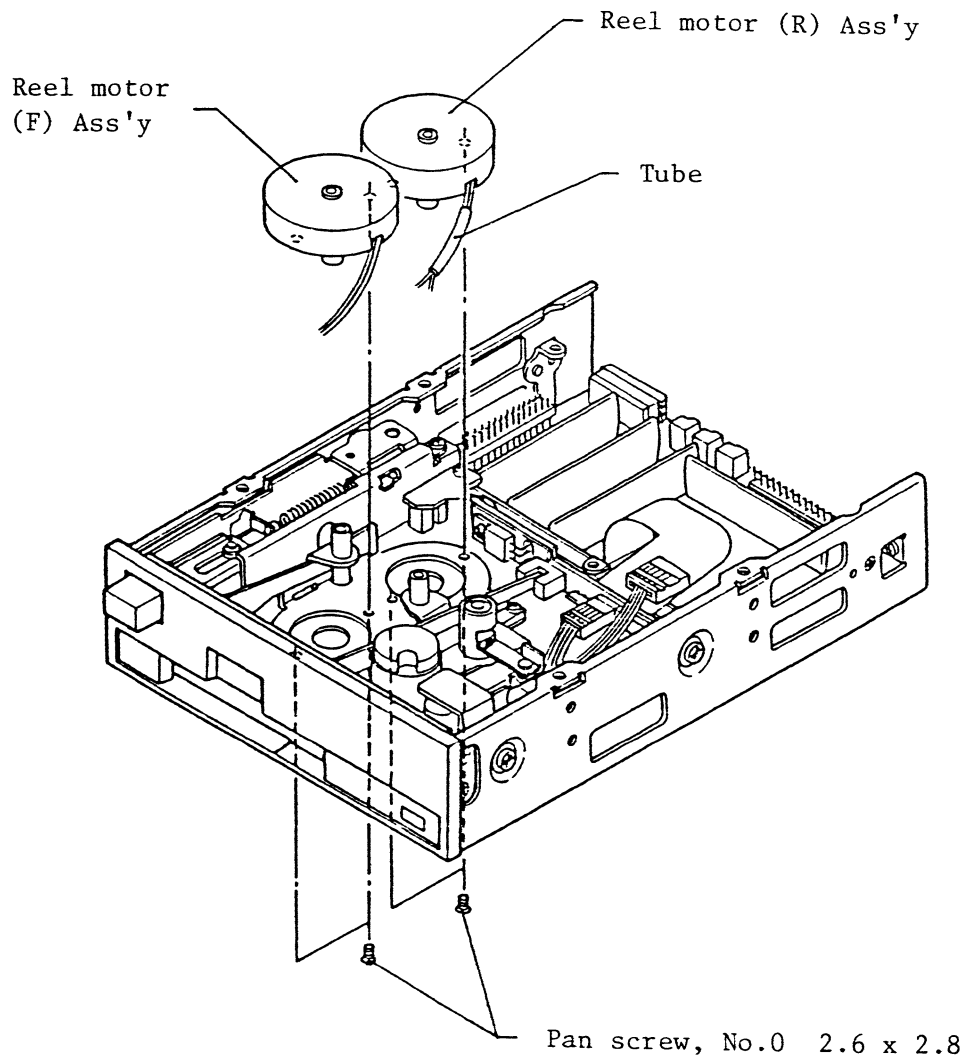

Fig.437 Replacement of reel motor (F),(R) Ass'y (2)
- (h) Remove the two reel motor mounting screws each from the reel motors, and detach the reel motors (F), (R) Ass'y from the main unit. Then, remove the tube from the reel motor (R) Ass'y. (Fig. 437)
- (i) Attach the new reel motors (F), (R) Ass'y to the main unit in the reverse procedure to the above.